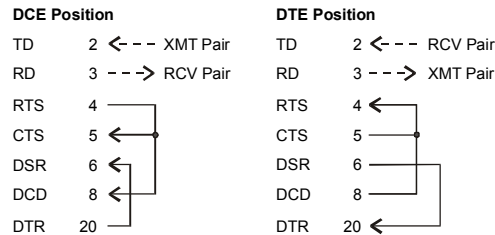

Figure 2. DCE/DTE Switch Configuration
1. Configure the modem to operate as DCE or DTE by setting the DCE/DTE switch on the bottom panel to appropriate position. Refer to Figure 2 for control signal direction in DCE and DTE modes.